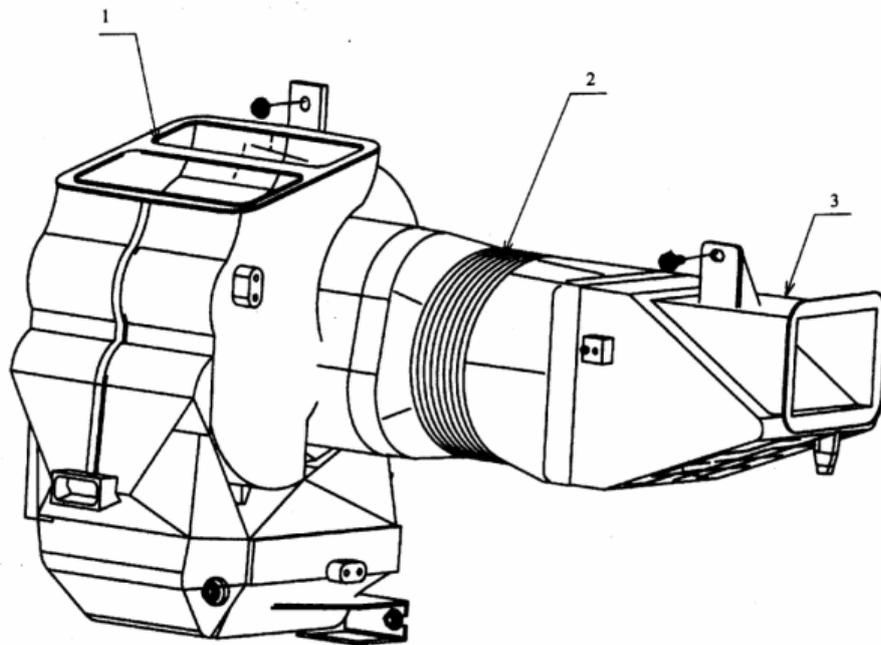

Fig. 18-17
**1 REMOVAL STEPS (Fig. 18-17)**